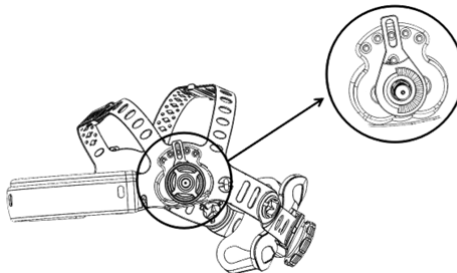

Fig. 5
4. To change the viewing angle, move the locating piece to different slots on the adjustment posts. This allows you to fine-tune the tilt and angle of the helmet for a better fit (Fig. 5).